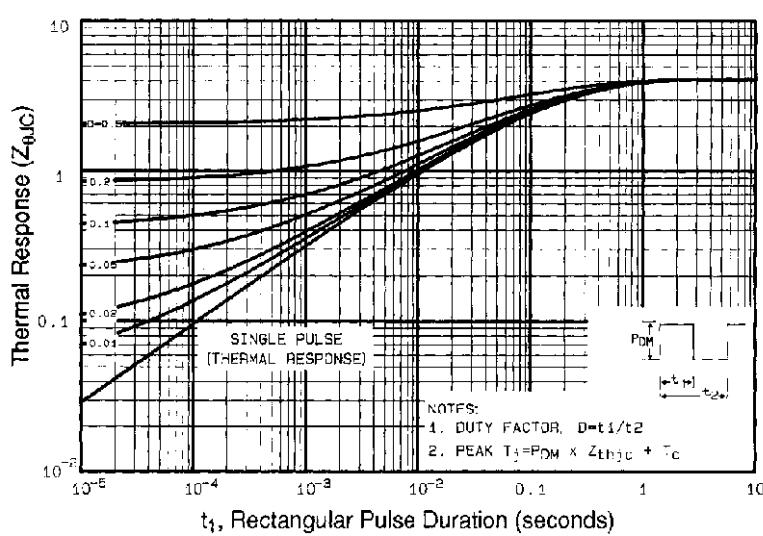

Fig 11. Maximum Effective Transient Thermal Impedance, Junction-to-Case
- ① Repetitive rating; pulse width limited by max. junction temperature (See Figure 11)
- ③ $I_{\text{SD}} \leq 5.2\text{A}$, $dI/dt \leq 95\text{A}/\mu\text{s}$, $V_{\text{DD}} \leq V_{(\text{BR})\text{DSS}}$, $T_J \leq 150^\circ\text{C}$
- ⑤ $t=60\text{s}$, $f=60\text{Hz}$